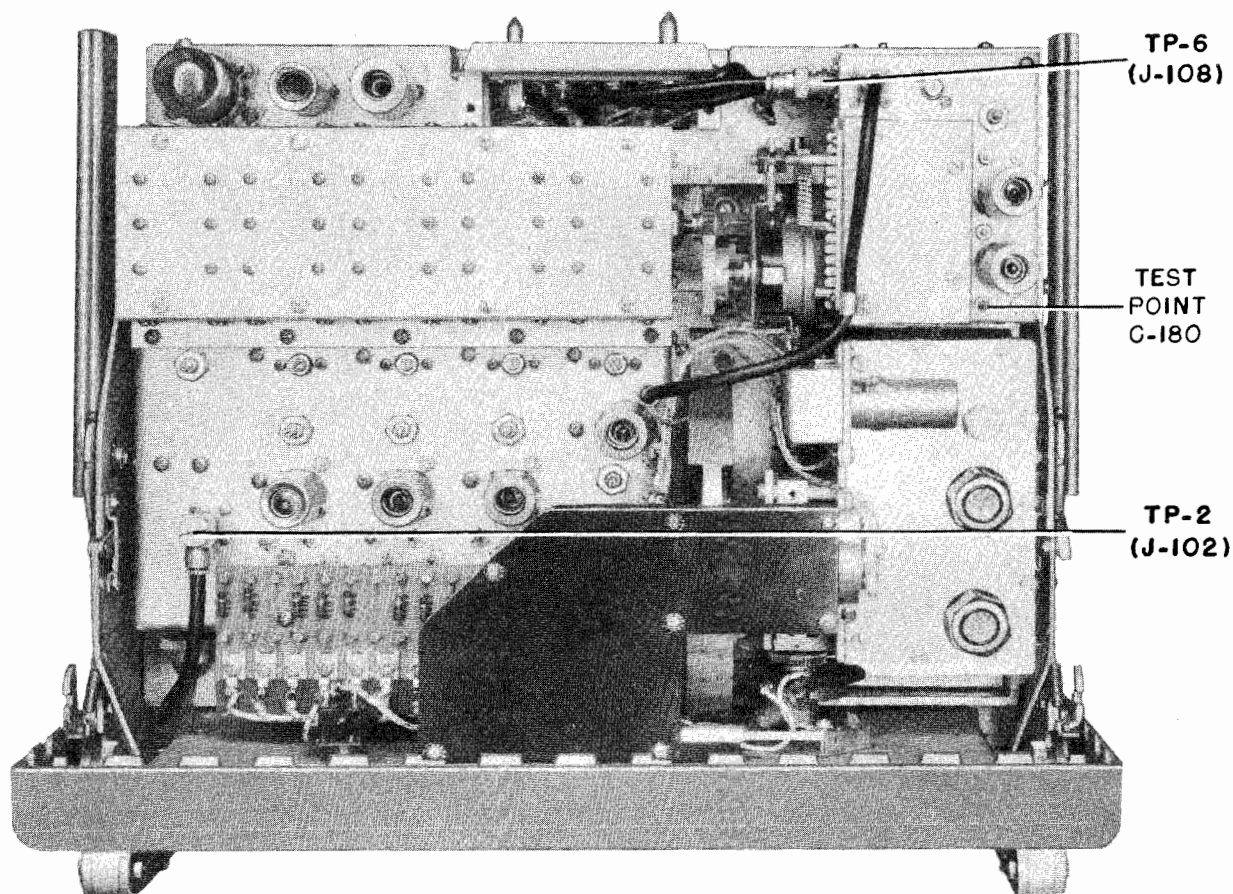

Figure 7-49. Location of Test Points, Amplifier-Converter AM-450, AM-451, AM-452, AM-453/FRR-24
Step 8. Remove the antenna input cable W-101 from J-102 (TP-2, see Figure 7-49) and connect the signal generator in its place, in accordance with Method C, Par. 5. c. Adjust the signal generator frequency and Antenna Trimmer control for maximum reading on the 2nd. I.F. Level meter.
Step 9. Reduce the setting of the signal generator Microvolt control until a reading of 1 milliamper is obtained on the 2nd. I.F. Level meter. The reading on the signal generator should be between 20 and 50 microvolts. The voltage gain from the antenna input to the converter grid should be approximately 50 decibels. If the above measurements are not obtained refer to Par. 6. a. (4). R.F. alignment.
Step 1. To check the local oscillator, set the Heterodyne-Oscillator switch on Control Panel SB-142/FRR-24 at Local. Connect a DC vacuum tube voltmeter (OBQ or ME-25/U) between the test point C-180 and chassis. See Figure 7-49. A negative voltage between 6 and 15 volts should be obtained as the Main Tuning capacitor is tuned over the range. Remove the voltmeter.